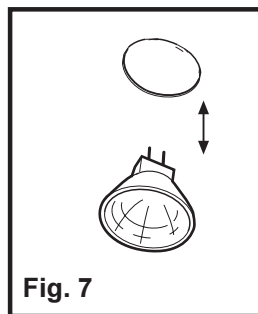

Fig. 7
- Remove the lamp, use a screw driver as a lever. **Fig. 7.**